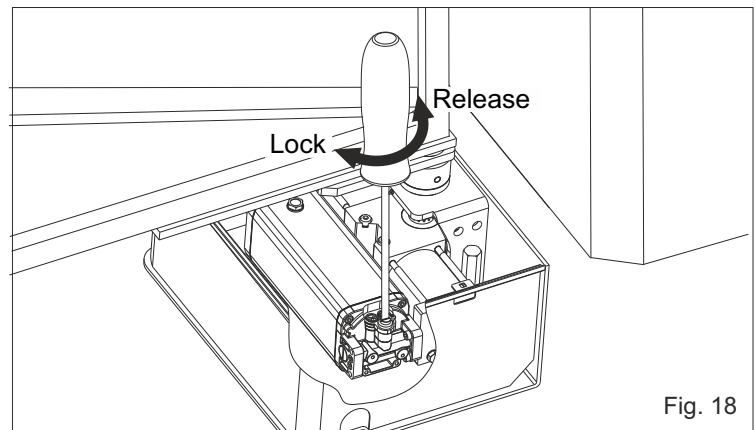

Fig. 18
-Turn the release screw with the screwdriver about 180° ca. in anti- clockwise direction (Fig. 18).